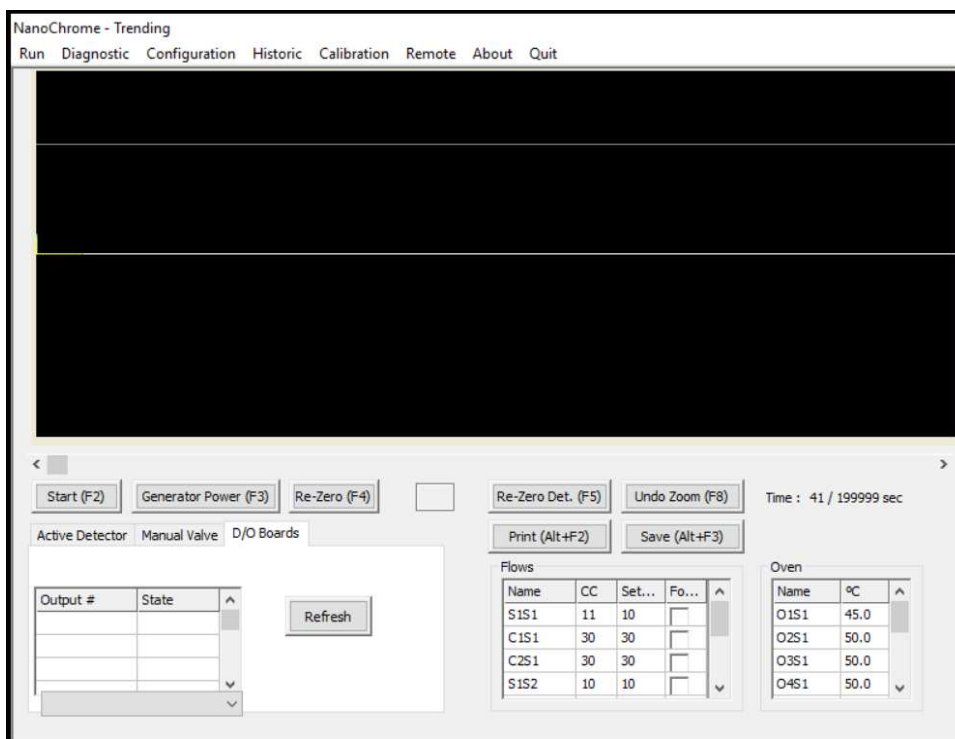

Figure 18 : Trending menu valve state
**If a box in the Follow? column is checked, the configured valve timing will be activated for that valve (see Figure 18).**